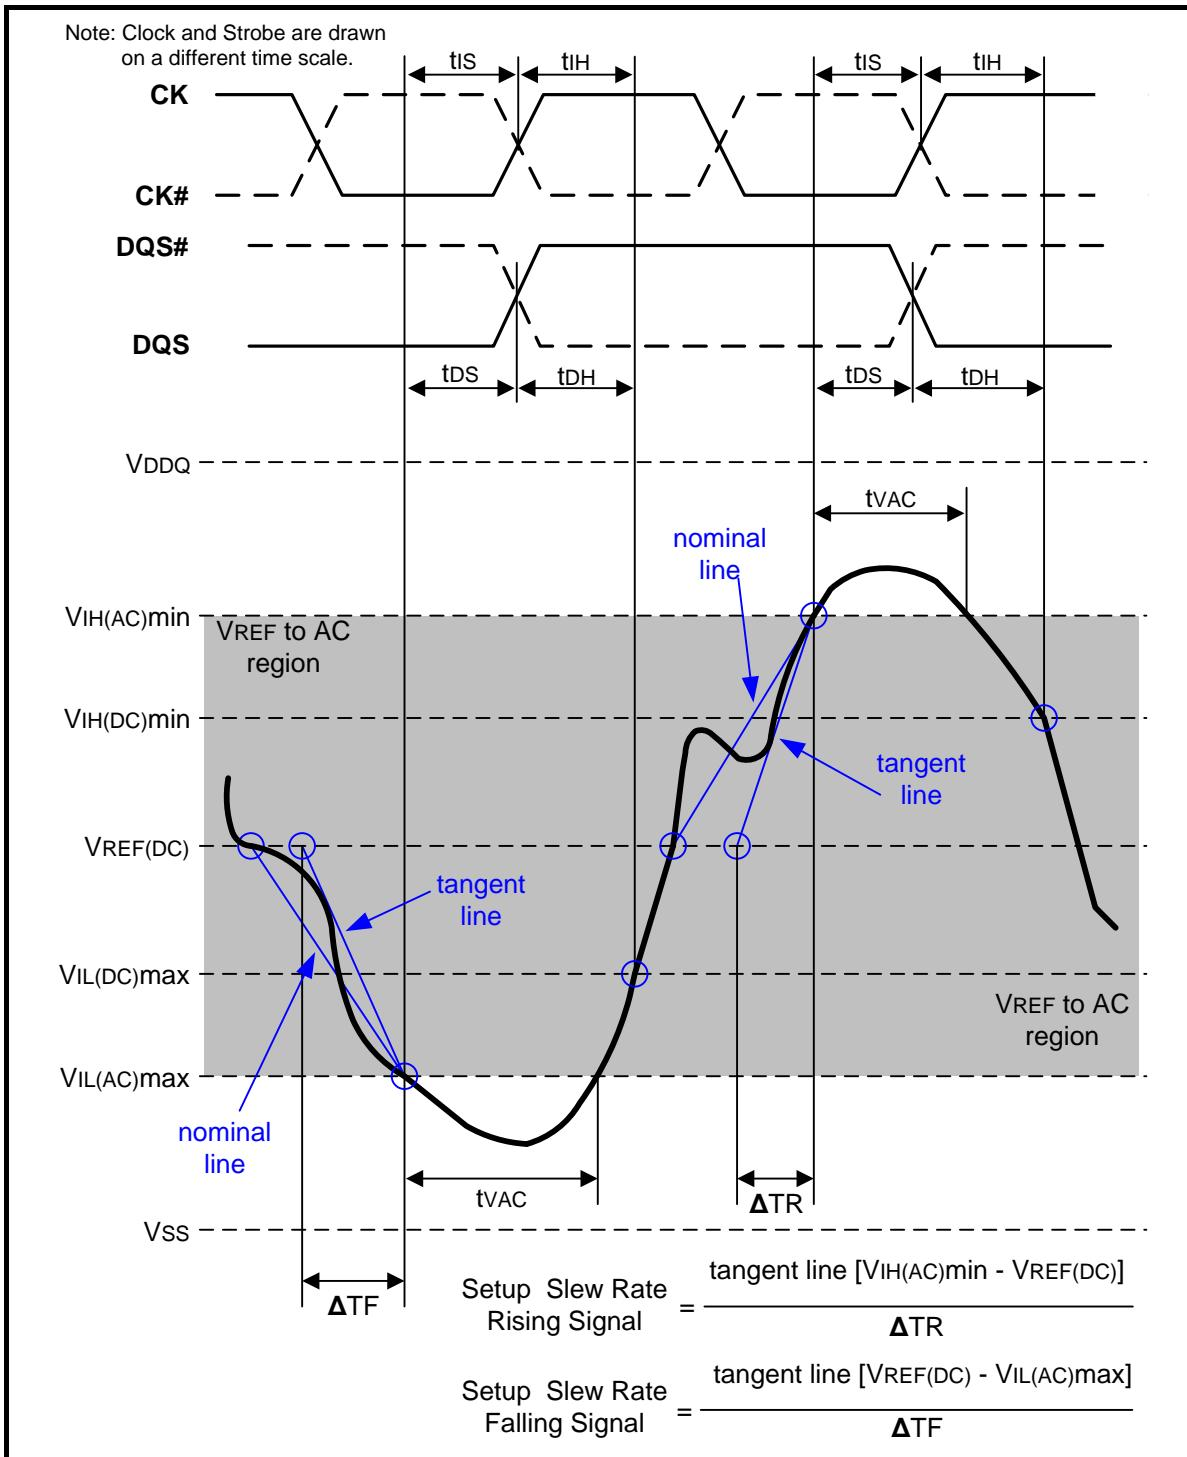

Figure 109 – Illustration of tangent line for setup time  $t_{DS}$  (for DQ with respect to strobe) and  $t_{IS}$  (for ADD/CMD with respect to clock)
Setup (tIS) nominal slew rate for a rising signal is defined as the slew rate between the last crossing of VREF(DC) and the first crossing of VIH(AC)min. Setup (tIS) nominal slew rate for a falling signal is defined as the slew rate between the last crossing of VREF(DC) and the first crossing of VIL(AC)max. If the actual signal is always earlier than the nominal slew rate line between shaded 'VREF(DC) to AC region', use nominal slew rate for derating value (see Figure 107). If the actual signal is later than the nominal slew rate line anywhere between shaded 'VREF(DC) to AC region', the slew rate of a tangent line to the actual signal from the AC level to VREF(DC) level is used for derating value (see Figure 109).
Setup (tDS) nominal slew rate for a rising signal is defined as the slew rate between the last crossing of VREF(DC) and the first crossing of VIH(AC)min. Setup (tDS) nominal slew rate for a falling signal is defined as the slew rate between the last crossing of VREF(DC) and the first crossing of VIL(AC)max (see Figure 107). If the actual signal is always earlier than the nominal slew rate line between shaded 'VREF(DC) to AC region', use nominal slew rate for derating value. If the actual signal is later than the nominal slew rate line anywhere between shaded 'VREF(DC) to AC region', the slew rate of a tangent line to the actual signal from the AC level to VREF(DC) level is used for derating value (see Figure 109).